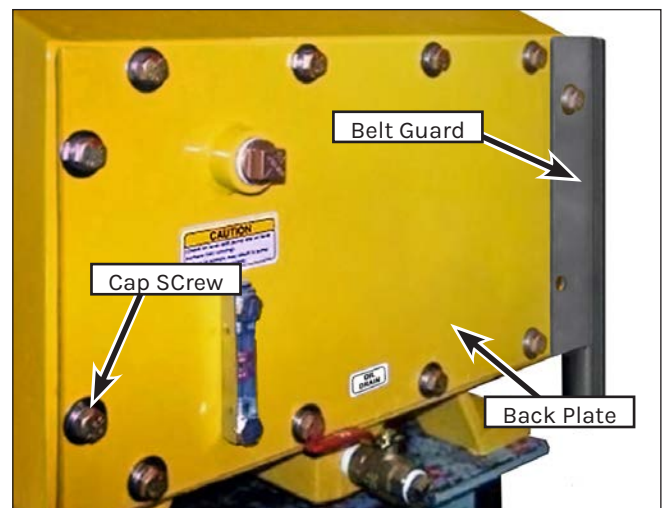

Figure 167: Cover Plate Installation.
10. Place the back plate (Figure 167), belt guard and gasket into position on the frame.